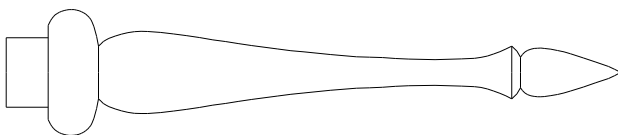

Figure 7: Suggested Bottom Finial Shape
- Finish turn the bottom finial. (Suggested shape is shown in Figure 7.)